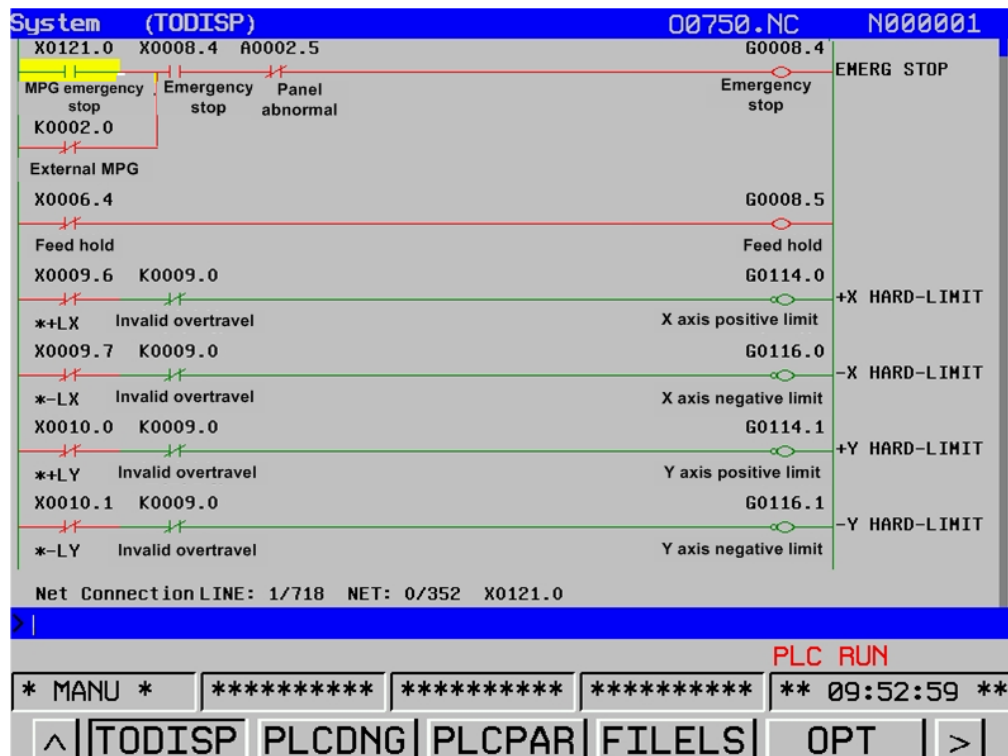

Fig. 3.6-8
c. After the display format is set, select the **[Integrated display]**, and then the **[OPT]** to enter an editing and modification interface of the ladder diagram. (Refer to Fig. 3-6-8)